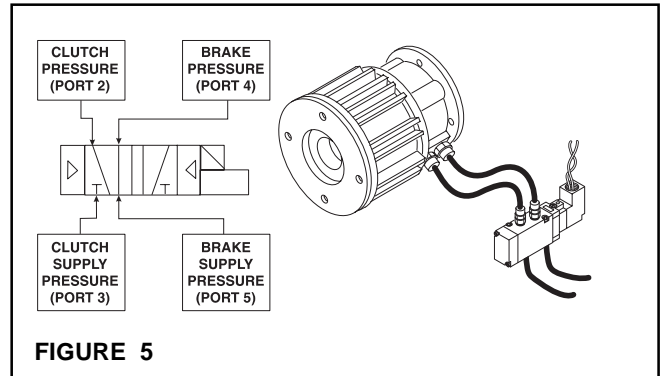

FIGURE 5
1. If the brake is to be set and the clutch is to be OFF when the solenoid is de-energized, connect the port marked 4 to the brake and the port marked 2 to the clutch (See Figure 5).
2. Connect the brake air supply line to the port marked 5 and the clutch air supply line to the port marked 3 (See Figure 5).